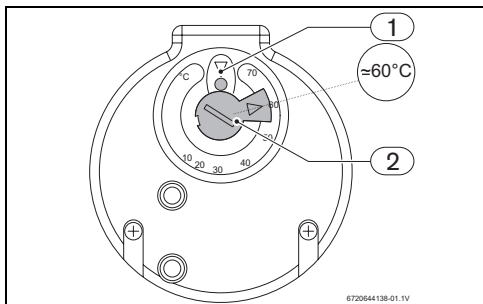

Fig. 9
- ▶ Adjust the thermostat to the desired temperature at which the heating element is switched off (→ Fig. 9, position 2).
The thermostat must be set to 60 °C, which corresponds to the position of the pointer as shown in Fig. 9.
- ▶ Press the restart pin on the safety thermostat (→ Fig. 9, position 1).